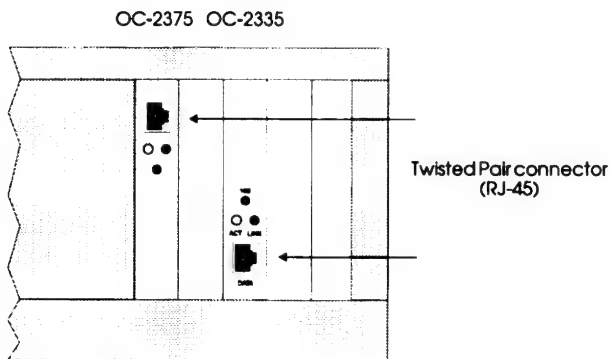

Figure 6. Back Panel
3. Remove the PC top cover to expose the inside of the PC. See figure 6 for Micro Channel Architecture (MCA-type) computers.